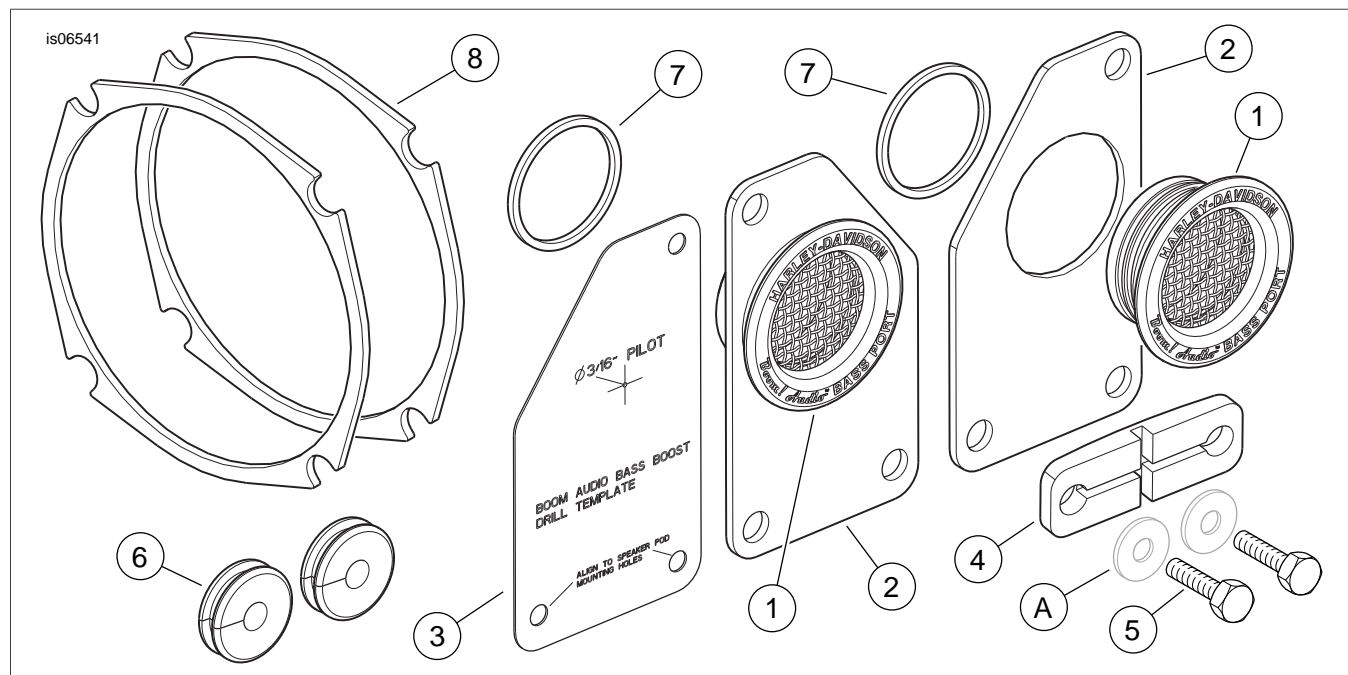

Figure 1. Service Parts, BOOM! Audio Bass Booster Tour-Pak Port Kit
See Figure 1 and Table 1.
7. See Figure 1. Get the drill template (3) from the kit.